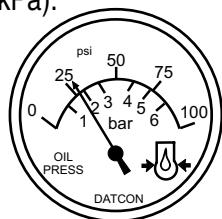

Figure 32. Oil Pressure Gauge
- The engine oil pressure gauge (Figure 32) will indicate the oil pressure of the engine. Under normal operating conditions the oil pressure is approximately 35 to 65 psi. (241~448 kPa).